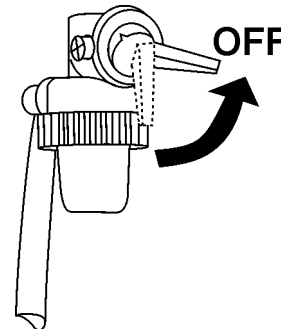

Figure 25. Engine Fuel Valve Lever (OFF Position)
5. Place the engine **fuel valve lever** (Figure 25) to the "OFF" position."